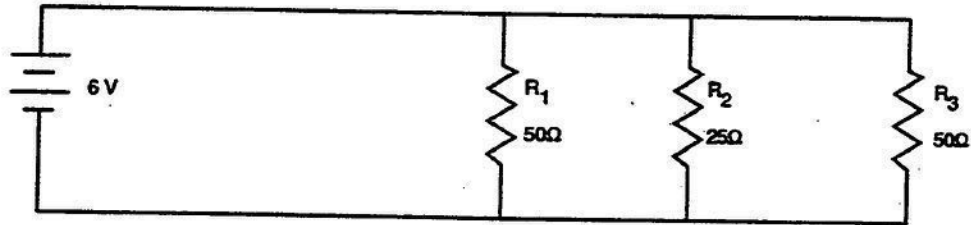

Figure 2-53. Lesson 023, self-test question 10.
10. Using the circuit in figure 2-53, calculate for the unknown values.